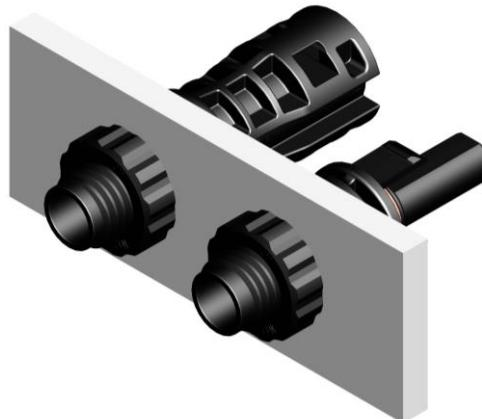

Figure 17
- ◇ 安装公/母面板连接器时，推荐用 2.0 Nm 的扭矩锁紧螺母。具体情况，需要由终端用户根据不同的面板验证合适的扭矩。(如图 17)
When installing the male or female panel connector, it is recommended to use 2.0 Nm torque lock nut. The appropriate torque has to be verified in the end use according to the respective housing. (Fig.17)